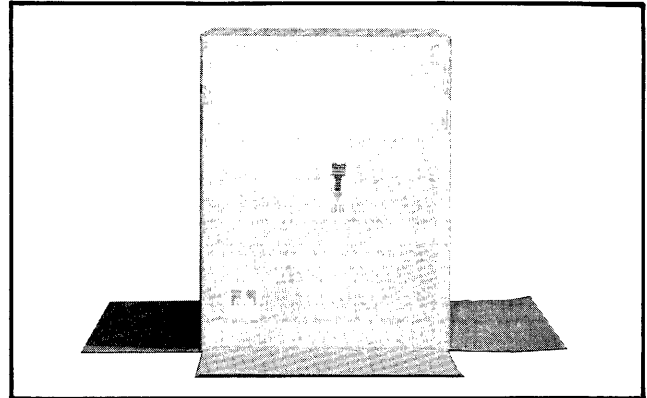

Figure 2-2.
3. Open the carton, fold back the flaps, and turn carton over. (See Figure 2-2)